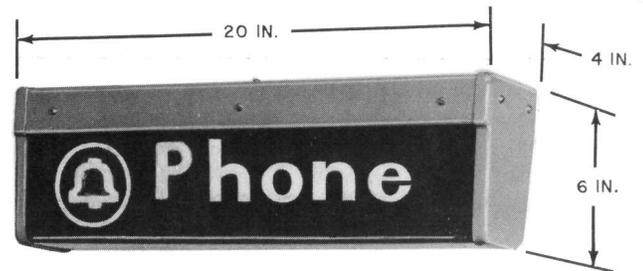
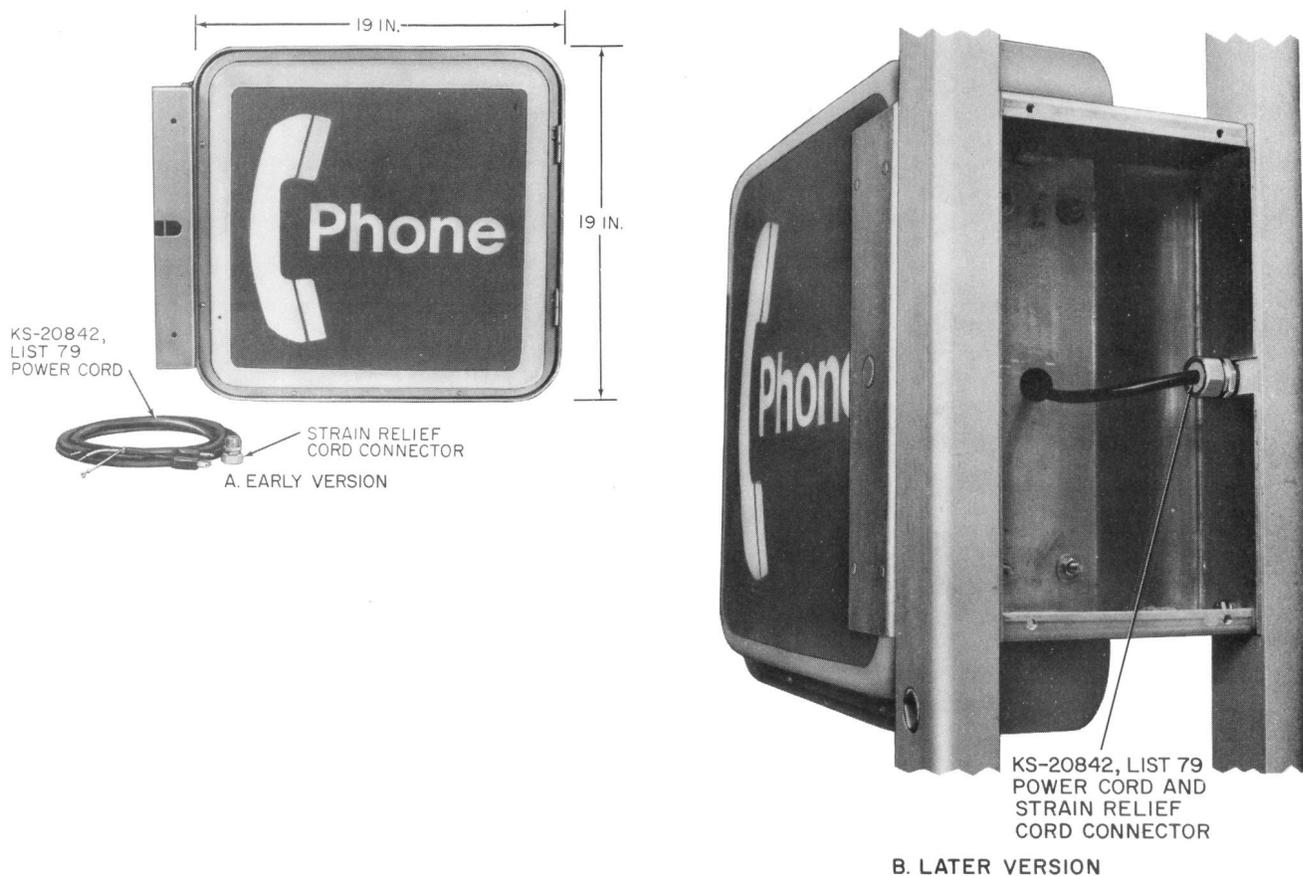

Fig. 1—KS-16422 Sign
Fig. 6—♦KS-20135, List 3 Sign♦
1.01 This section contains information on KS-16422 (Fig. 1), KS-19322 (Fig. 2 and 3), KS-19681 (Fig. 4), KS-20031 (Fig. 5), and KS-20135 (Fig. 6) illuminated type phone signs.
2.19 The KS-20135 sign (Fig. 6) is a double-sided sign designed for mounting on telephone booths, masts, and wall mountings.